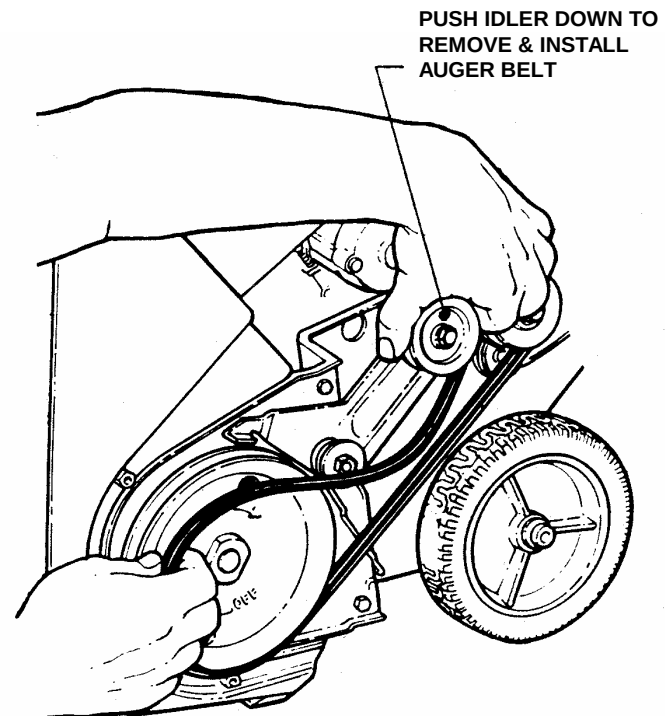

FIGURE 5.5
4. Push the spring tensioned idler pulley down and install new belt. See Figure 5.5.